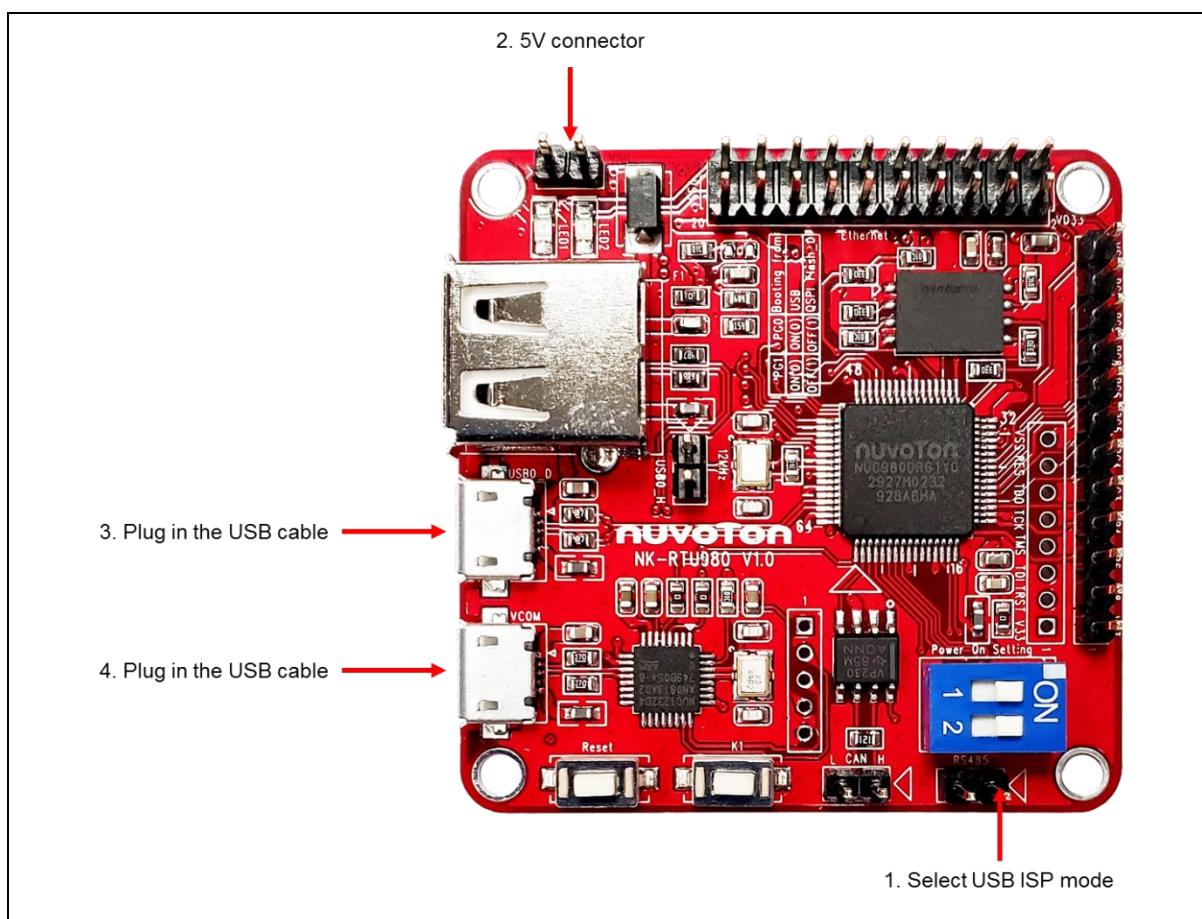

Figure 4-5 Hardware Setting
2. Connect USBD connector shown Figure 4-5 in to the PC USB port through a USB cable